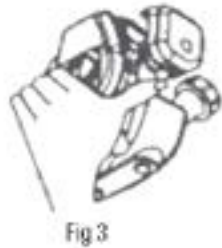

Fig 3
1. Turn on the gasoline switch until the gasoline flows out the clear plastic pipe. (Fig 3)